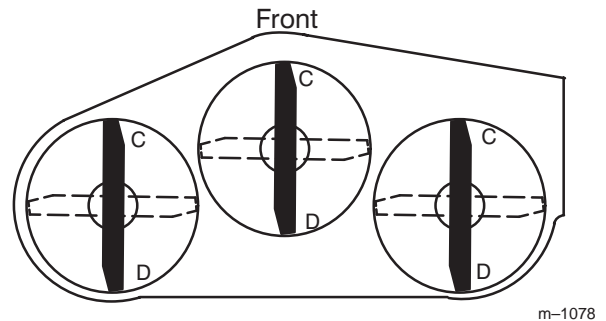
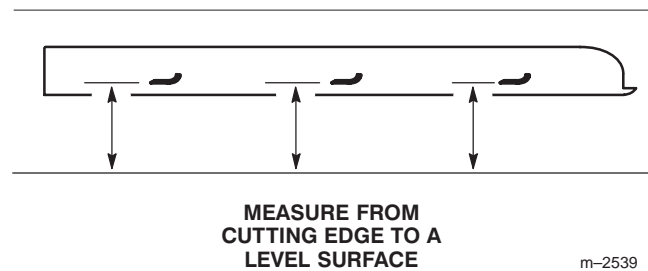

Figure 50
Figure 51
2. Position one blade front-to-rear (Fig. 50). Measure at "C" and "D" locations (Fig. 50) from a level surface to the cutting edge of the blade tips (Fig. 51).
4. Position the blades front-to-rear (Fig. 50). Measure at “C” and “D” locations (Fig. 50) from a level surface to the cutting edge of the blades (Fig. 51).